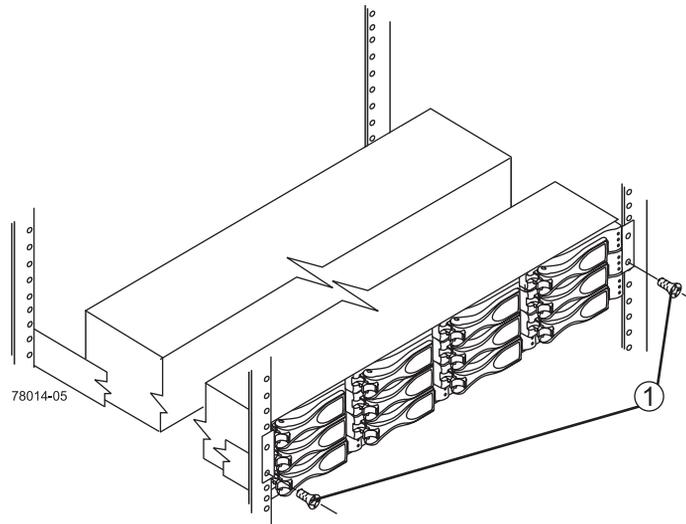

Figure 1-24 Securing the Front Screws on the Disk Enclosure
Use Figure 1-24 on page 30 and the steps that follow to properly secure the disk enclosure in the rack with screws (see item 1).